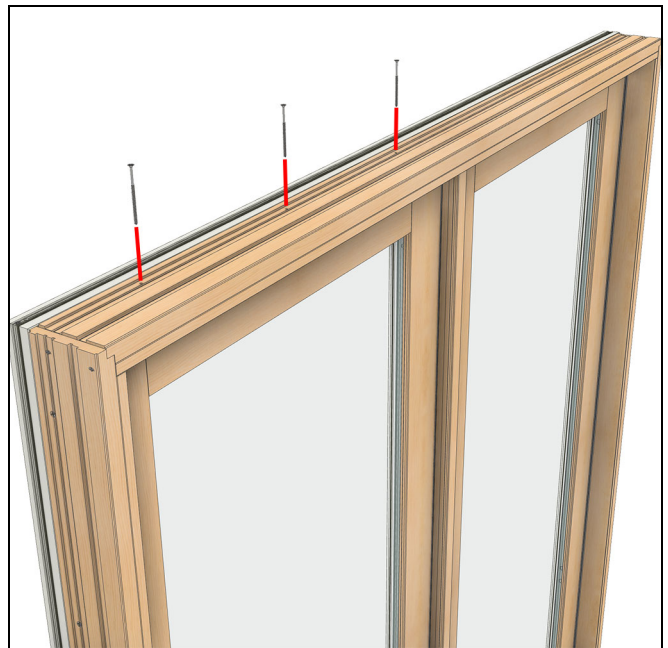

Figure 27
7. Fasten the panel in the frame with #8 x 3" screws provided. See Figure 27.